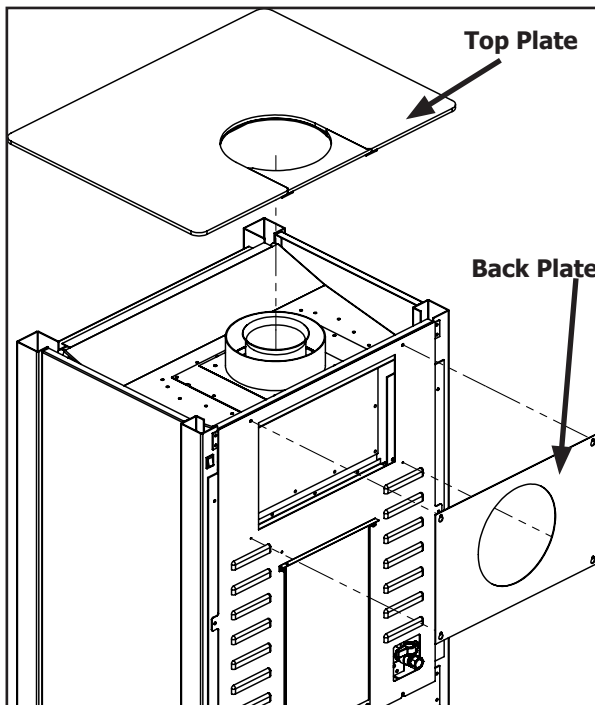

Figure 17. Vent Conversion - Step 1
Step 1: Using a T20 screwdriver loosen the four screws retaining the back plate and unhook it. Then remove the Top Plate by simply lifting up as shown in Figure 17.